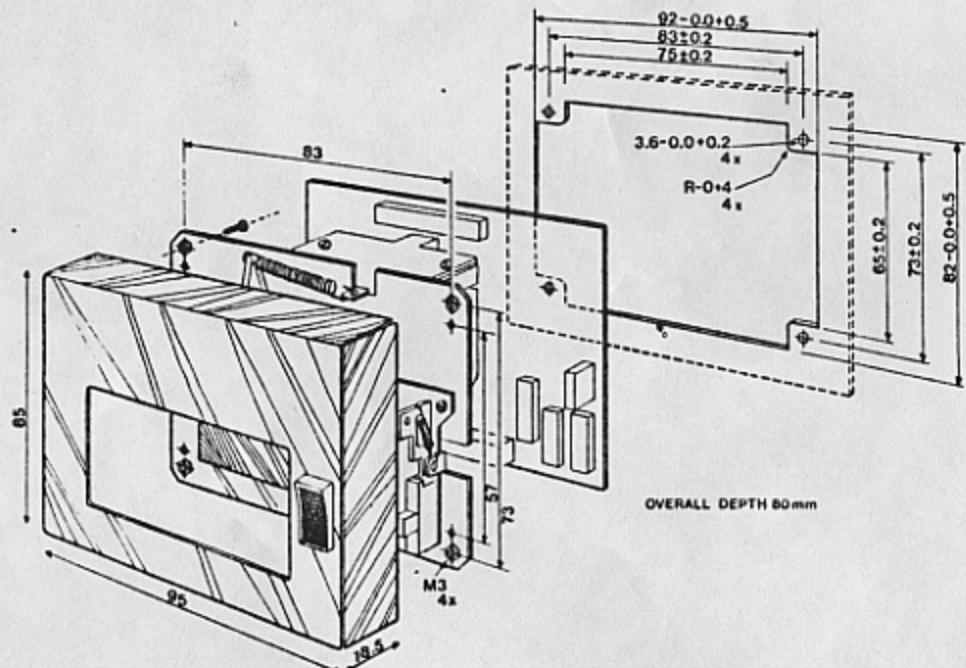

Fig. 1. Mini-DCR — Physical Dimensions.
- Fig. 1. Mini-DCR — Physical Dimensions